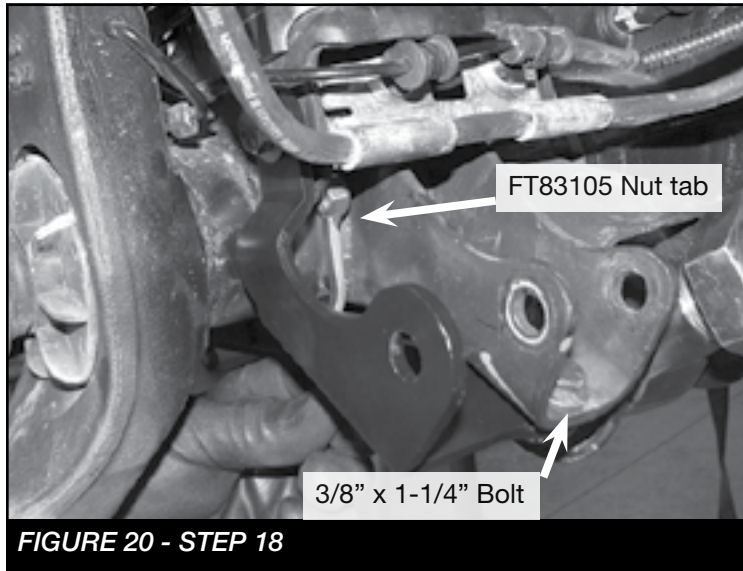

FIGURE 20 - STEP 18
18. Install the new bracket using the 3/8" hardware and FT83105 (Nut tab) with the factory brake line bracket. Torque to 31 ft-lbs. Install the supplied 3/8" x 1-1/4" bolt, washers and nut to secure the new bracket to the factory lower shock mount **SEE FIGURE 20**